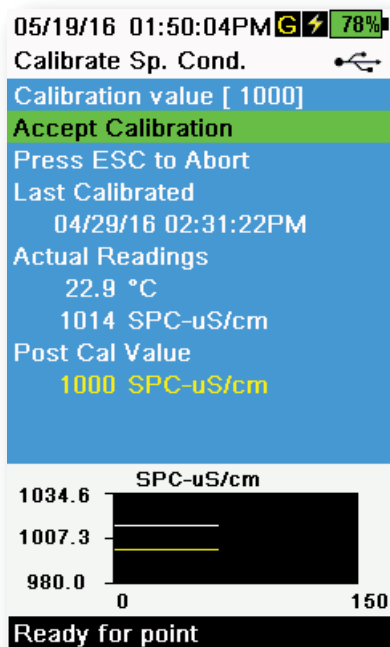

Figure 48 Calibrate specific conductance
7. Observe the actual measurement readings for stability (white line on graph shows no significant change for 40 seconds), then select **Accept Calibration** (Figure 48). "Calibration successful!" will be displayed in the message area.